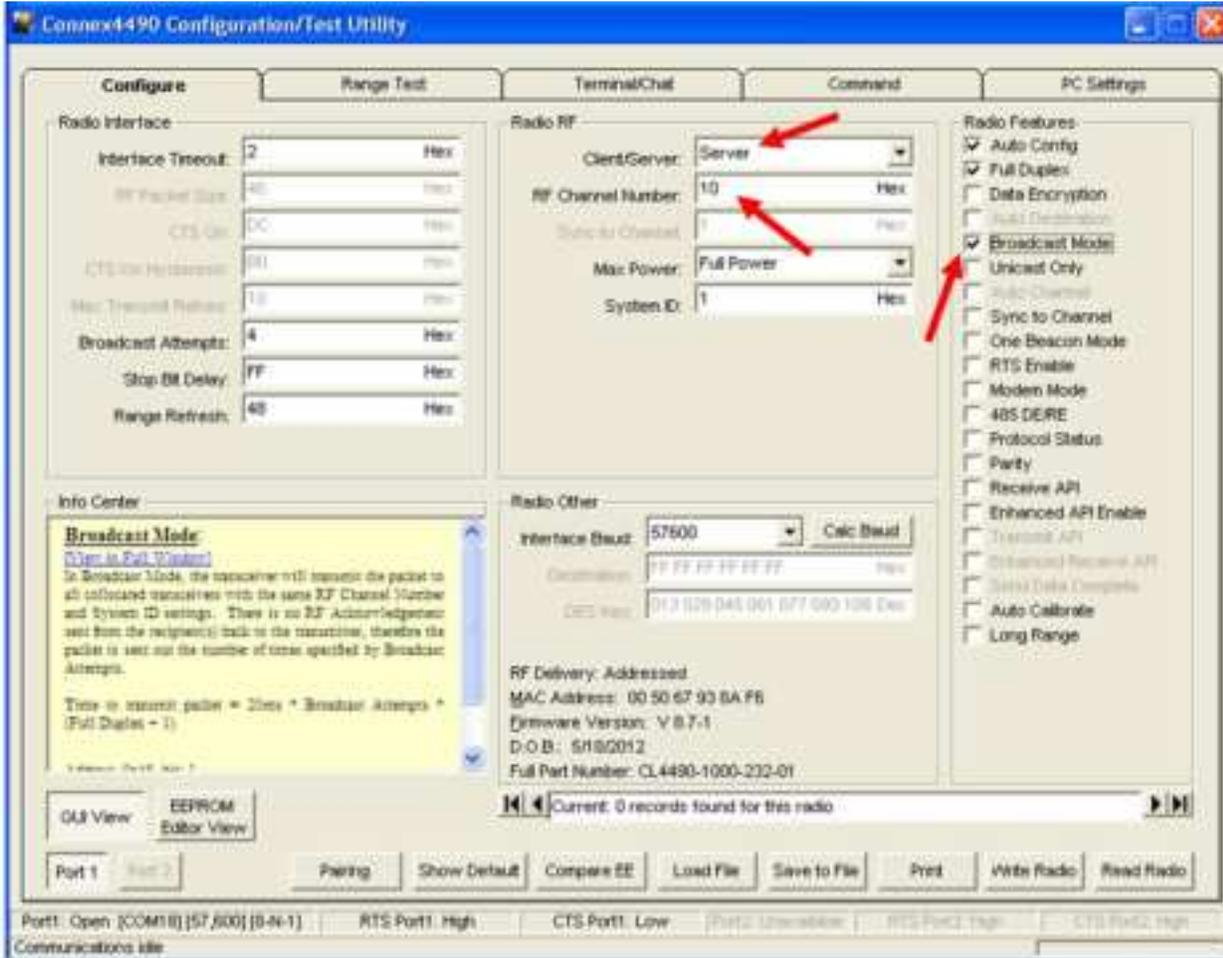

Figure 11: Hop Master settings
16. To configure the Hop Master, select **Server** and **Broadcast Mode**. Make note of the RF Channel Number (Figure 11). Once the appropriate changes have been made, click **Write Radio**. A Write Successful prompt appears after a successful write. Note that the values are shown using hexadecimal representation; you may change this to decimal notation by double-clicking on the word “Hex” (it changes to “Dec”).